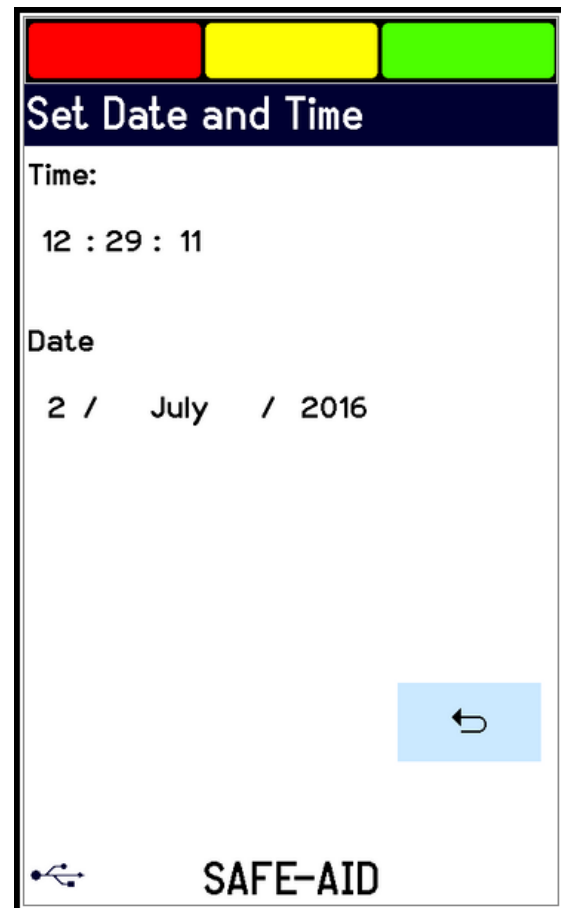

Figure 32
2. Press the  and the Set Date & Time screen (figure 32) will be displayed. Select the data to be adjusted and set the correct time and date.